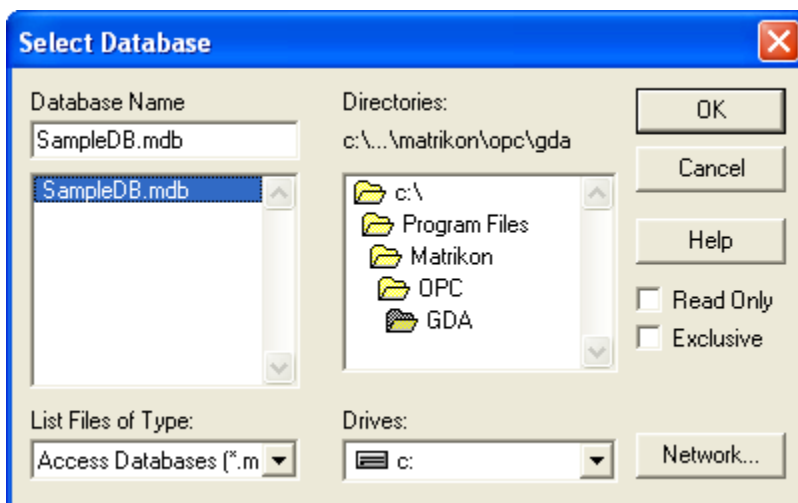

Figure 97 - Select Database Window
12. The **Select Database** window (Figure 97) appears.